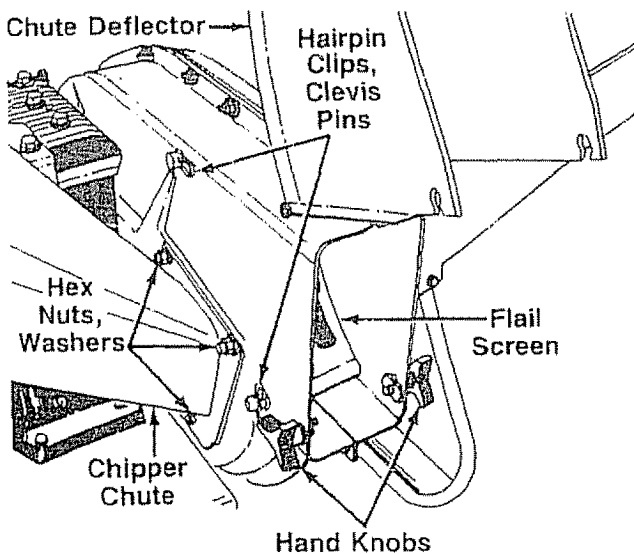

FIGURE 18.
- Remove two hairpin clips from the clevis pins which extend through the housing. Remove the clevis pins. Lift the flail screen from inside the housing. See figure 18
NOTE: Be certain to reassemble the flail screen with the curved side down as shown in figure 18.
- Remove the chipper chute by removing three hex nuts and washers. A 1/2" wrench is required. See figure 18